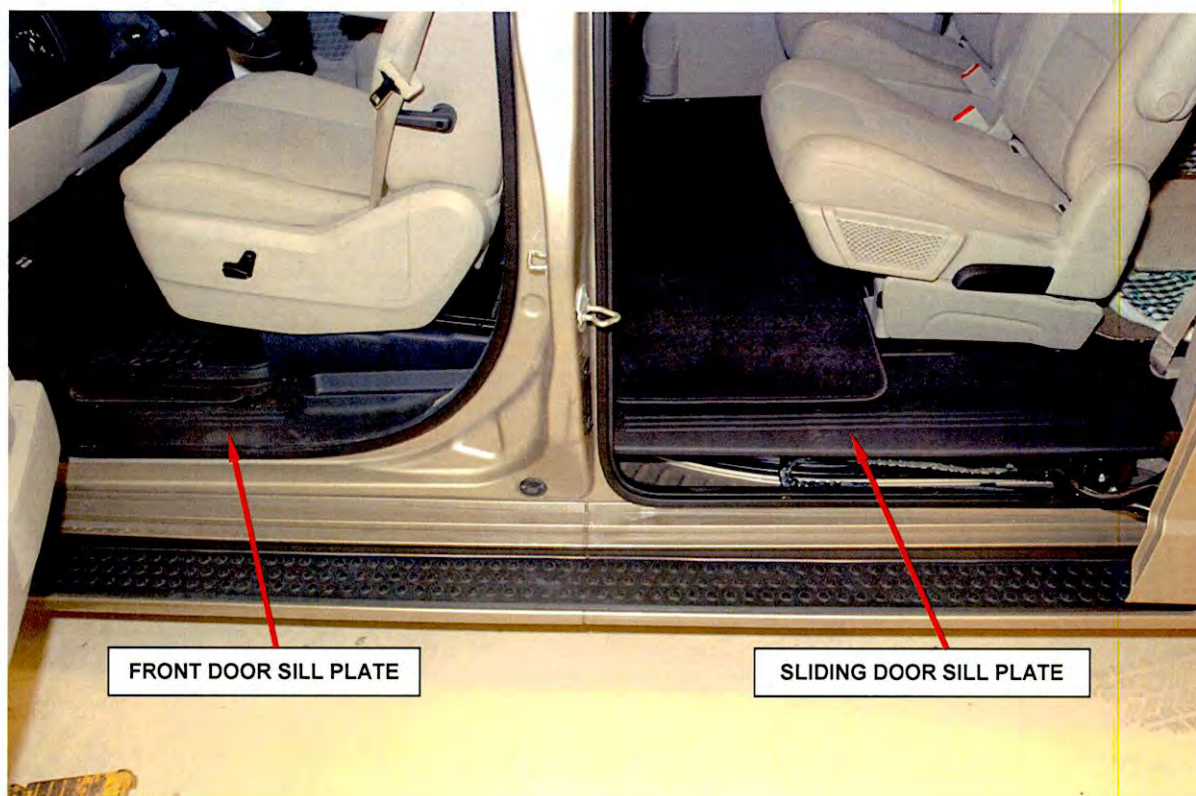

Figure 12 – Sill Plate Removal
3. Carefully unsnap the front door sill plate and sliding door sill plate by lifting the inside edge of the sill plates (Figure 12).
25. Carefully snap the front door sill plate and sliding door sill plate in place (Figure 12).